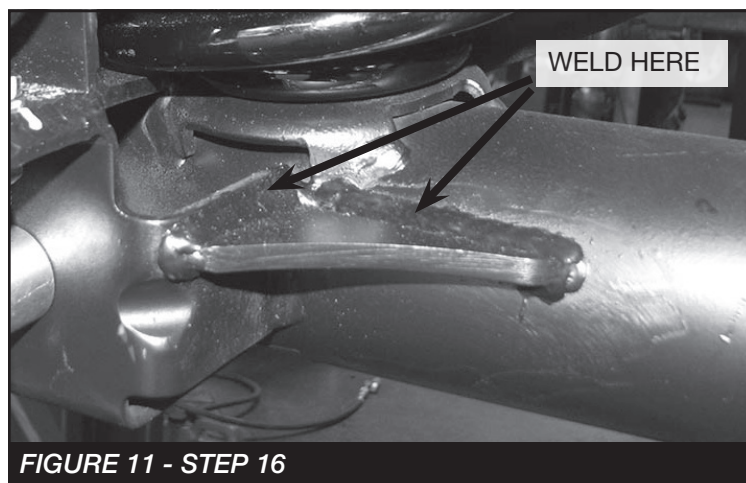

FIGURE 11 - STEP 16
12. Jack up the rear end of the vehicle and support the frame rails just in front of the rear bumper with jack stands. **NEVER WORK UNDER AN UNSUPPORTED VEHICLE!** Remove the rear tires. Support the rear axle. Do not allow to hang freely. Remove the factory shocks and rear sway bar end links and discard. Disconnect the brake lines from the frame and save hardware. Remove the plastic clips that hold the ABS lines to the frame and at the rear upper link arm pockets. Do not damage the clips, they will be reused. Remove the (2) nuts attaching the factory E-brake cable from the body and save.
15. Locate FT50362 Gusset, position it onto the axle and the factory track bar mount as shown in photo. Weld the gusset on the two sides. **SEE FIGURE 11**